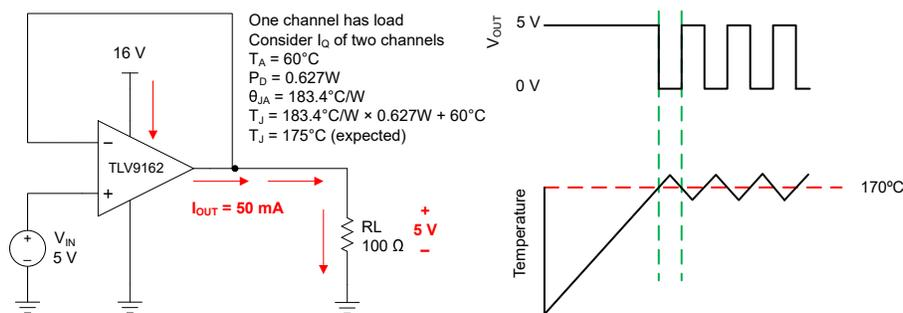

Figure 7-4. Thermal Protection
The internal power dissipation of any amplifier causes its internal (junction) temperature to rise. This phenomenon is called *self heating*. The absolute maximum junction temperature of the TLV916x is 150°C. Exceeding this temperature causes damage to the device. The TLV916x has a thermal protection feature that reduces damage from self heating. The protection works by monitoring the temperature of the device and turning off the op amp output drive for temperatures above 170°C. Figure 7-4 shows an application example for the TLV9162 that has significant self heating because of its power dissipation (0.627 W). In this example, both channels have a quiescent power dissipation while one of the channels has a significant load. Thermal calculations indicate that for an ambient temperature of 60°C, the device junction temperature reaches 175°C. The actual device, however, turns off the output drive to recover towards a safe junction temperature. Figure 7-4 shows how the circuit behaves during thermal protection. During normal operation, the device acts as a buffer so the output is 5 V. When self heating causes the device junction temperature to increase above the internal limit, the thermal protection forces the output to a high-impedance state and the output is pulled to ground through resistor  $R_L$ . If the condition that caused excessive power dissipation is not removed, the amplifier will oscillate between a shutdown and enabled state until the output fault is corrected. Please note that thermal performance can vary greatly depending on the package selected and the PCB layout design. This example uses the thermal performance of the TSSOP (8) package.